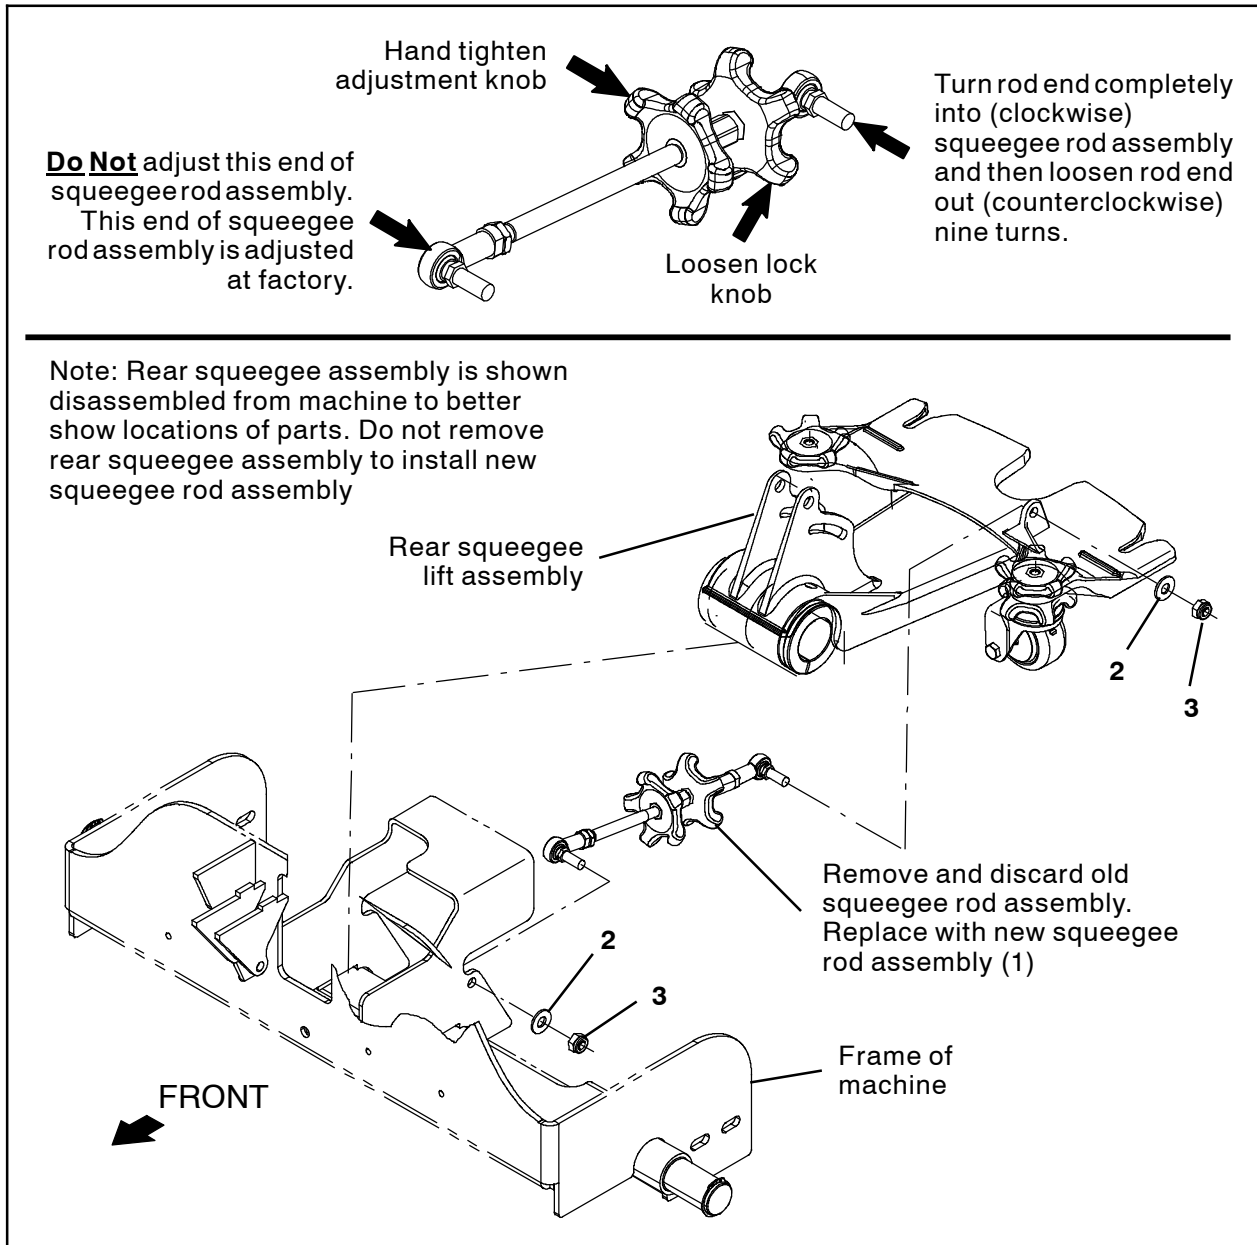

FIG. 1
1. Remove the squeegee rod assembly from the machine. Discard the squeegee rod assembly and mounting hardware. (Fig. 1)
2. Adjust the new squeegee rod assembly (1). Turn the rod end located closest to the adjustment knobs into (clockwise) the squeegee rod assembly and then turn the rod end nine turns out (counterclockwise) from the squeegee rod assembly. (Fig. 1)
3. Loosen the squeegee rod assembly lock knob and then hand tighten the adjustment knob completely in. (Fig. 1)
4. Use a M10 hex nut (3) and a flat washer (2) to install the squeegee rod assembly (1) onto the rear axle assembly. (Fig. 1)
5. Use a M10 hex nut (3) and a flat washer (2) to install the squeegee rod assembly (1) onto the squeegee lift arm assembly. (Fig. 1)